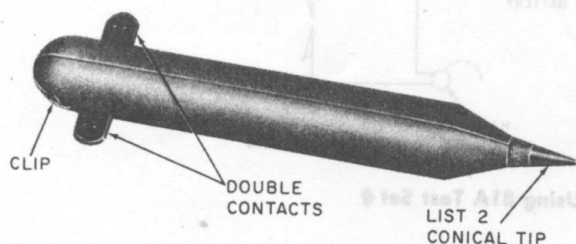

Fig. 1—AT-8629, List 1 Test Probe
- Include new Fig. 1, 2, and 4, showing current production test probe.
2.01 The test probe (Fig. 1) is a pencil-shaped tool approximately 7 inches long and 1 inch in diameter. The matching halves of the plastic body are held together by the metal tip and a clip and screw. The bright yellow color serves as an aid in locating the probe if dropped in tall grass, snow, etc.